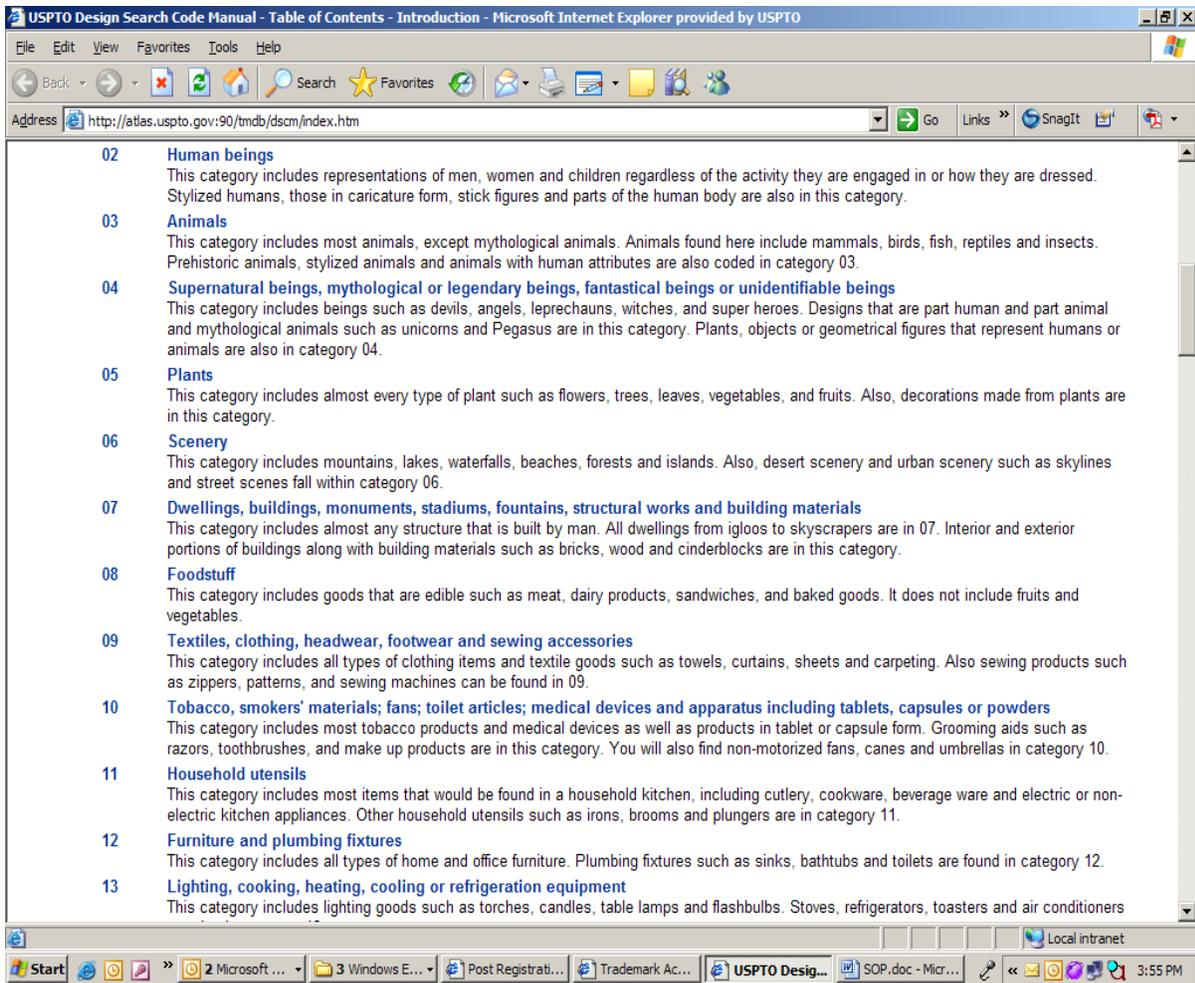

Figure 1-3: The Design Search Code Manual Homepage
Step 2: Click on the “Table of Categories” link under the Table of Contents to browse the major categories of design search codes or click on the “Keyword Search” link to search for a particular design search code (Figure 1.3).